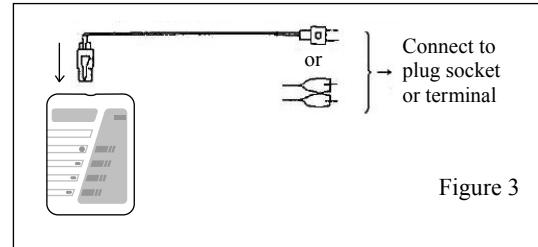

Figure 3
- [Figure 3] Connect the transmitter to the terminal to check the voltage. One of the circuit voltage LEDs blinks.